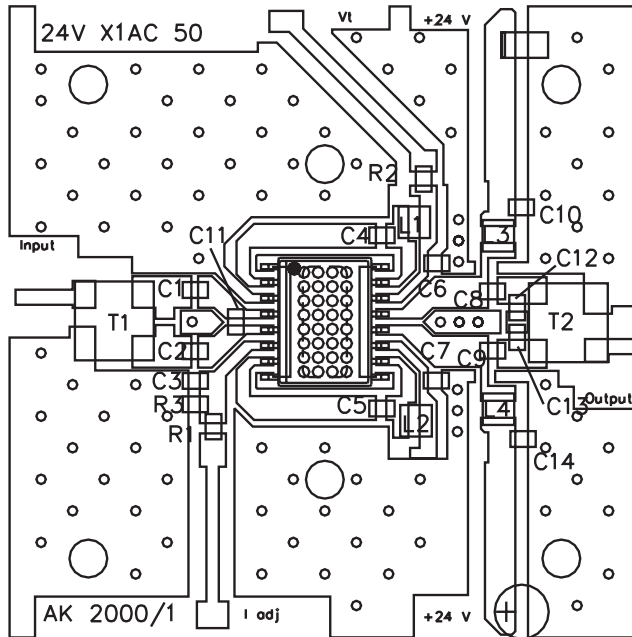

Figure 13: Evaluation Board Layout
(1) Measured with baluns on the input and output of the device.
(2) Parts measured with 77 channels, +58 dBmV power, 13.5 dB tilt at 870 MHz.
(3) Parts measured with 110 channels, +54 dBmV power, 13.5 dB tilt at 870 MHz.
4. All specifications as measured on Evaluation Board (see Figures 13 & 14).